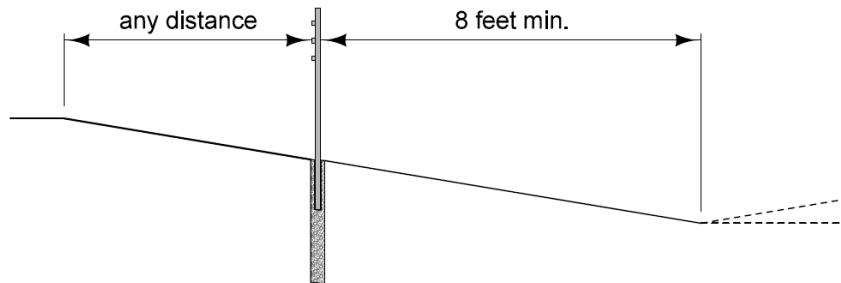

Figure 1: High tension cable guardrail placed on slopes 6:1 or flatter.
- On slopes 6:1 or flatter, the high tension cable guardrail can be located any distance from the foreslope breakover, see Figure 1. However, it cannot be placed any closer than 8 feet from the breakover at the bottom of a ditch, see Figure 1.